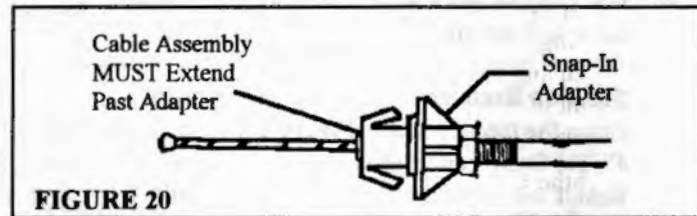

FIGURE 20
2. After the threads have been formed, screw the Snap-In Adapter on to the Cable Assembly. (Figure 20)